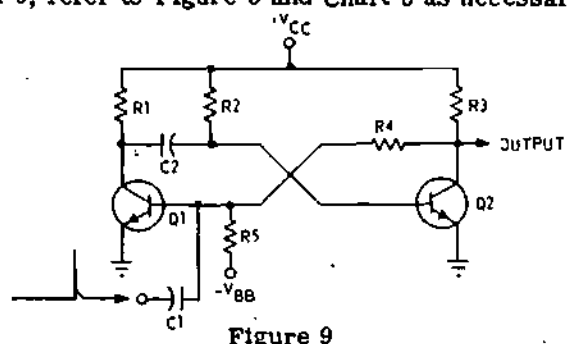

Figure 9
For questions 1 through 6, refer to Figure 9 and Chart 3 as necessary.
- Figure 9 is the schematic diagram of a _____; before triggers are applied, Q _____ is saturated and Q _____ is cutoff.
- Given Chart 3 as the waveshapes for the Figure 9 circuit, with waveshape "B" labeled as VCQ1, label the remaining waveshapes.
- Output PRT of the Figure 9 circuit is controlled by the (input trigger PRT) (value of C2 and R2), and output pulse width is controlled by the (input trigger PRT) (value of C2 and R2).
6. If C1 (figure 9) became open, which of the following conditions would exist?